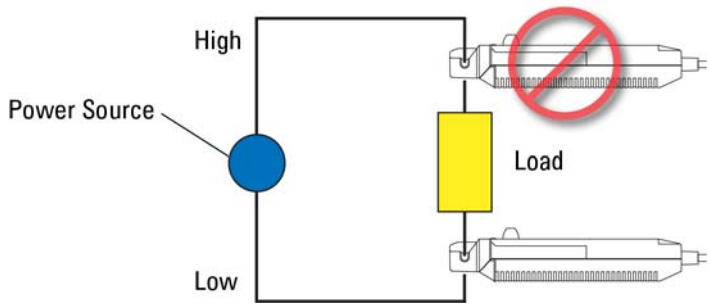

Figure 5 Clamp Onto the Low-Voltage Side of Circuit
- 6 At high frequencies, common mode noise may affect measurements taken on the high voltage side of circuits. If this occurs, reduce the frequency range of the measuring instrument or clamp onto the low-voltage side of the circuit (as shown in Figure 5 on page 15), as appropriate.